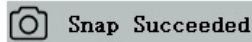

Figure 3-2
■ The screen shows "Snap Succeeded", which means that the picture has been taken successfully. This is shown in Figure 3-2.